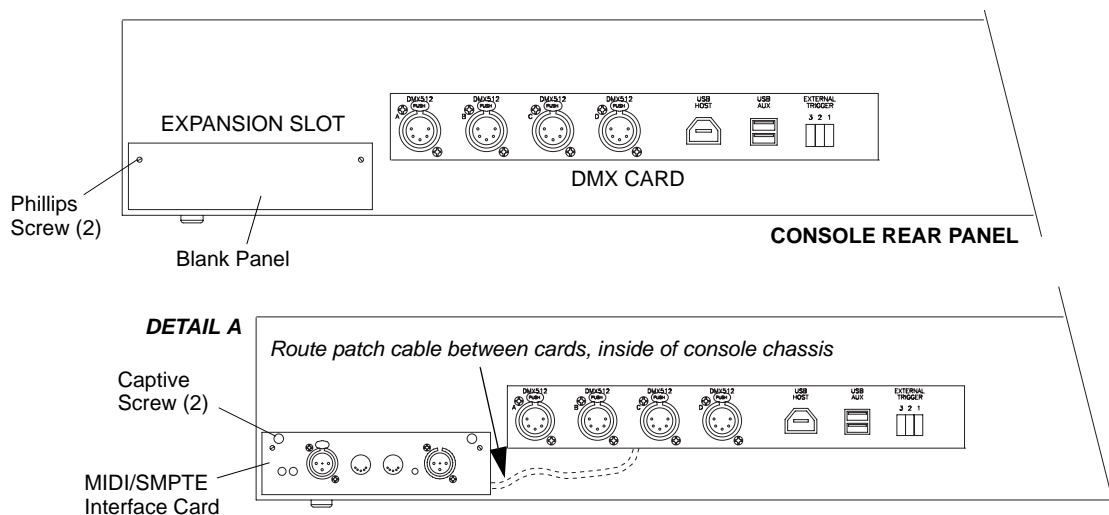

Figure 2: Installing MIDI/SMPTE Interface Card
Step 3. At console rear panel, remove blank panel from expansion slot by removing two Phillips screws (**Figure 2**).
Step 6. Feed Patch Cable inside console chassis and route toward expansion slot as shown in **Figure 2**. Slide DMX Card back into its slot and secure by hand-tightening two captive screws.